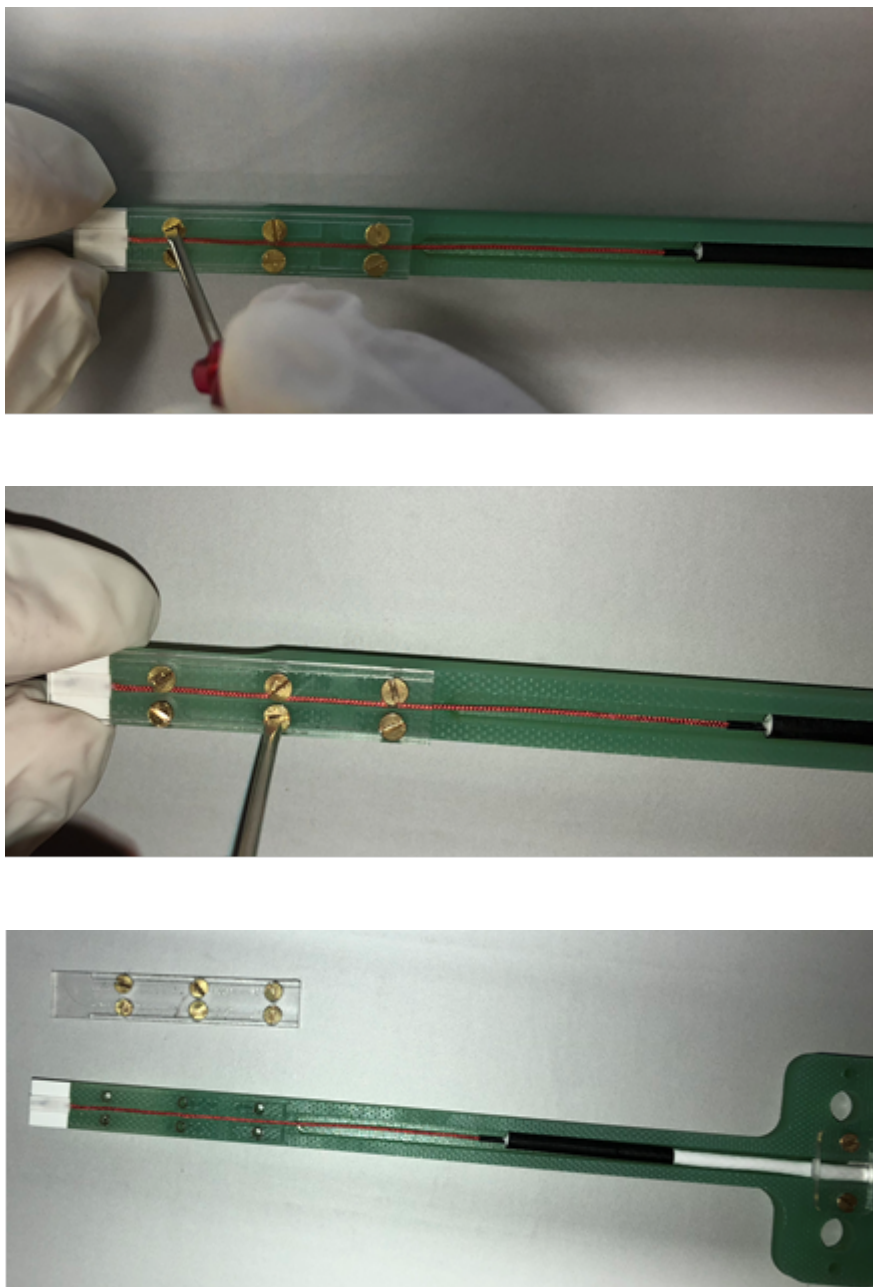

Figure 2.
If needed for a re-calibration purpose, the probe may be disassembled from and re-assembled into the support structure (as shown in the Figures 2 to 6).
Step 1: Unscrew the six small brass screws on the top side, and then remove the plastic cover from the PHS-DL holder (as shown in the Figure 2).